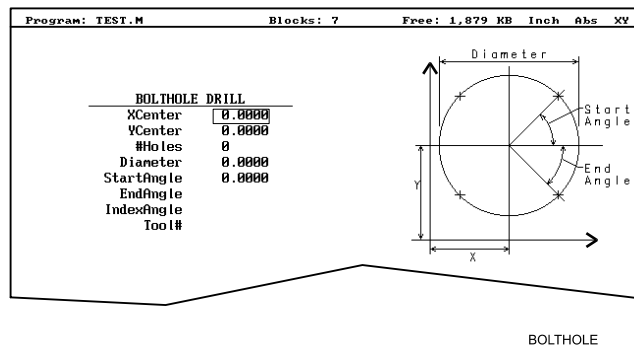

Figure 5-7, BOLTHOLE DRILL Graphic Menu
2. Select **Bolt Hole** from the pop-up menu, and press **ENTER** to display the **BOLTHOLE DRILL** Graphic Menu. Refer to **Figure 5-7**.